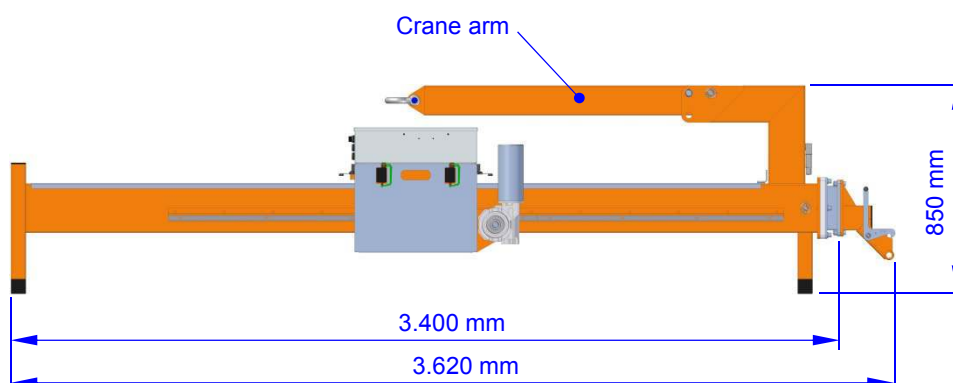

Fig. 4: Transport and storage of the counterweight balancer
- Move the travelling cage into the position shown in fig. 4 (also s. point 2.3 "Control of the counterweight balancer").
- Tilt the crane arm 90° down and secure its new position by mounting the previously removed locking bolt B with lynch pin type 1 (s. fig. 4).